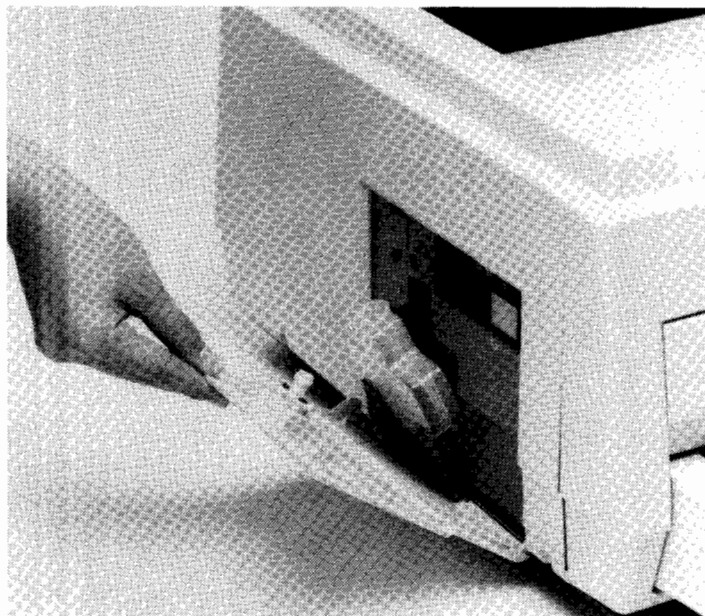

Figure 4-1. Opening Left Cover
- a. Open the left cover (figure 4-1).